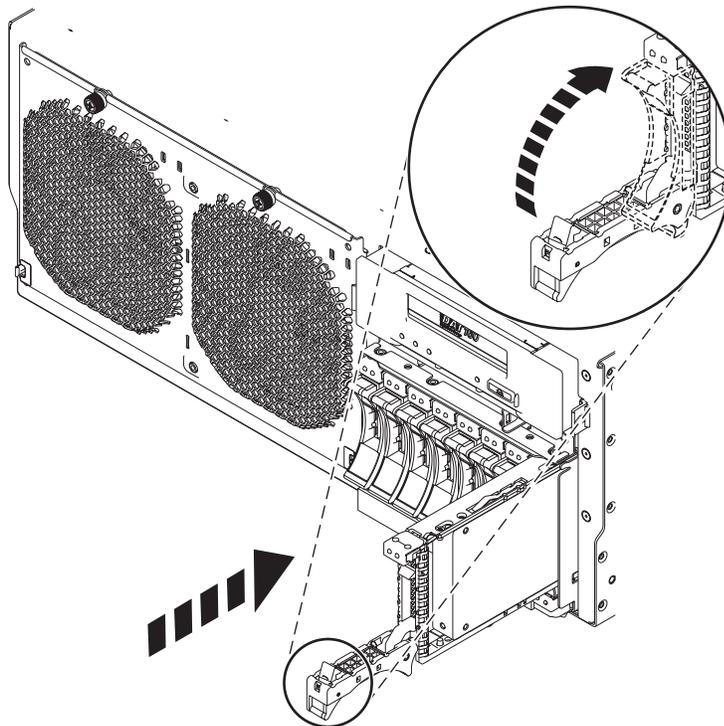

Figure 1. Installing the disk drive in the system
7. When the identify LED turns on solid, slide the drive all the way into the system or an expansion unit, and push the drive handle in until it locks. See Figure 1.